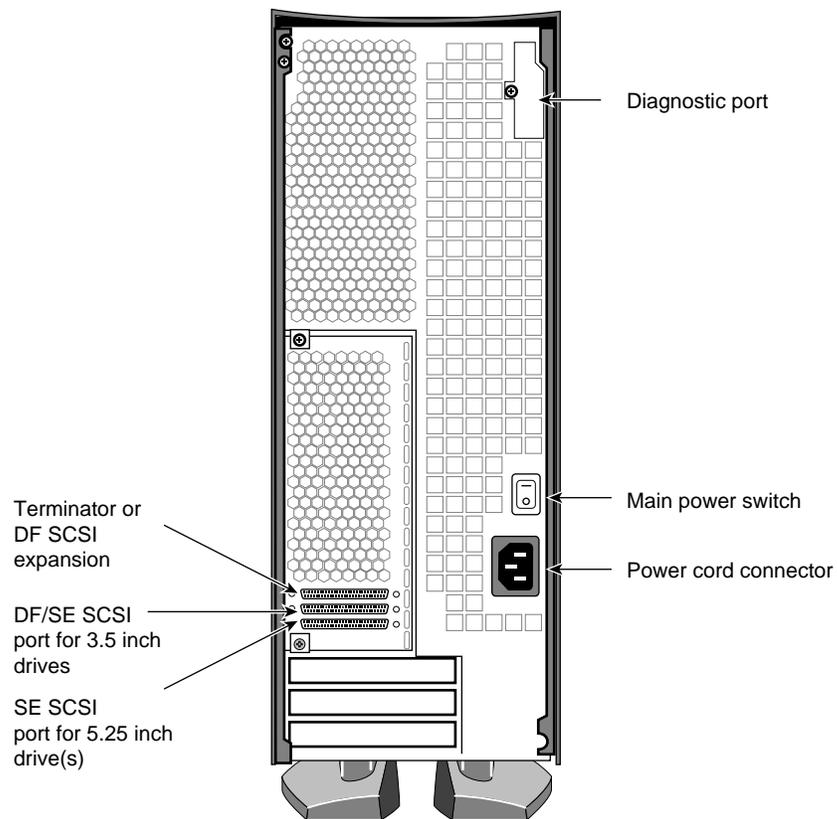

Figure 3-5 Origin Vault Standalone Tower Rear View
2. Locate the 5.25-inch drive SCSI connector on the tower (see Figure 3-5). You must have a SCSI connection to the lower (5.25-inch drive) SCSI port from the host system.